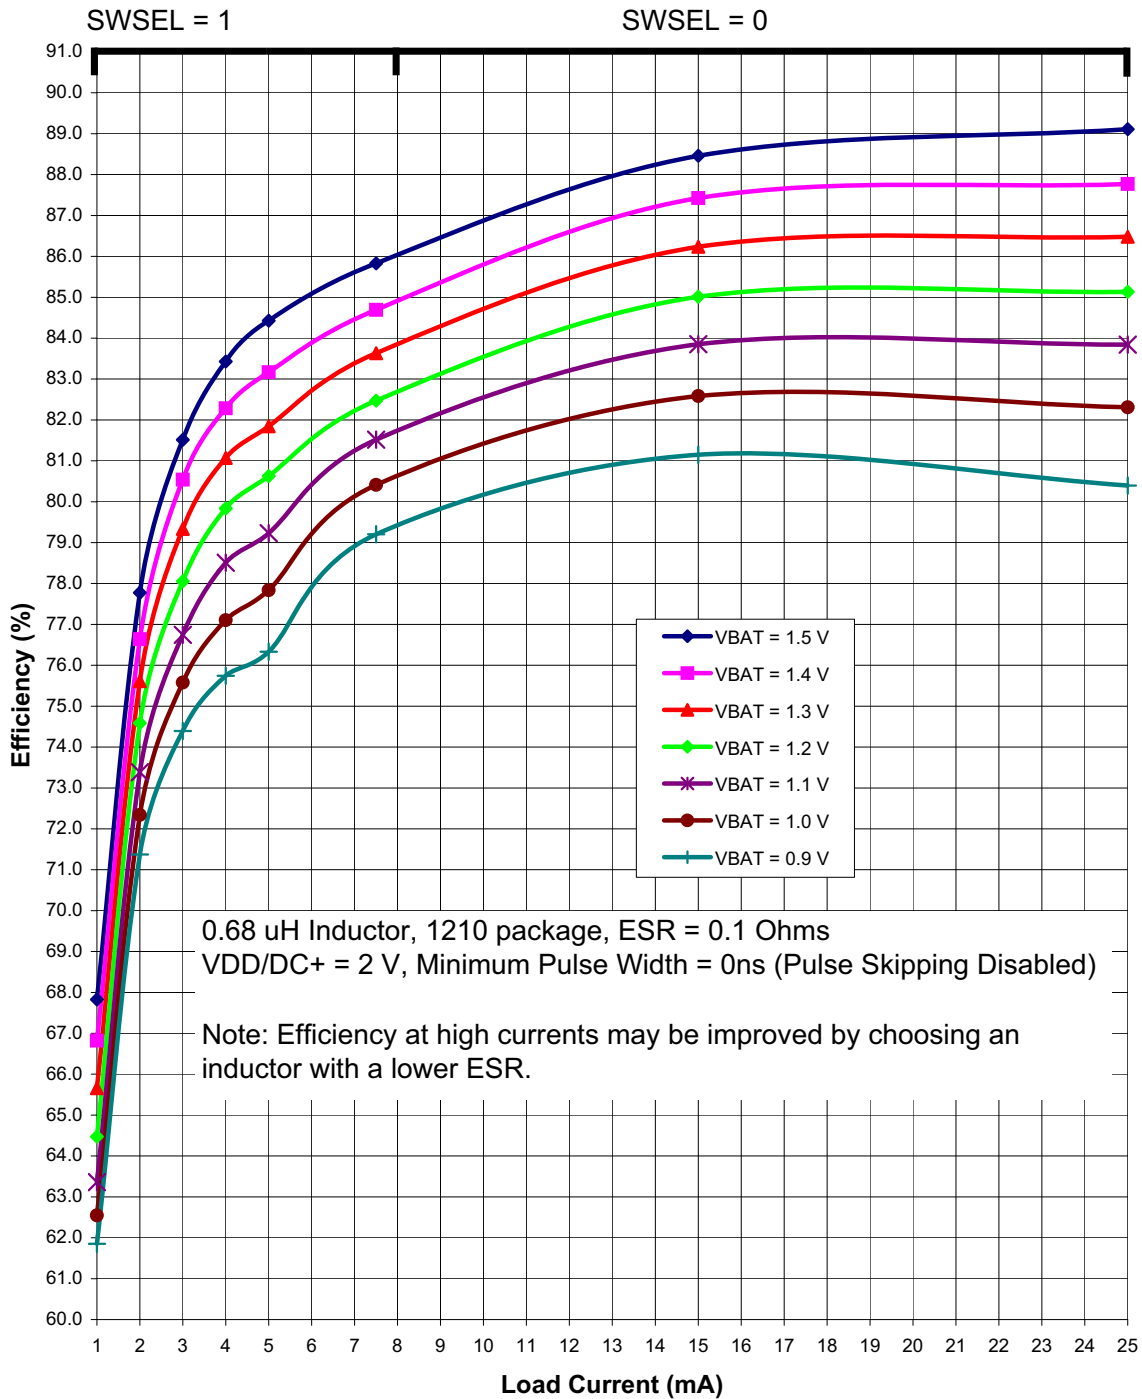
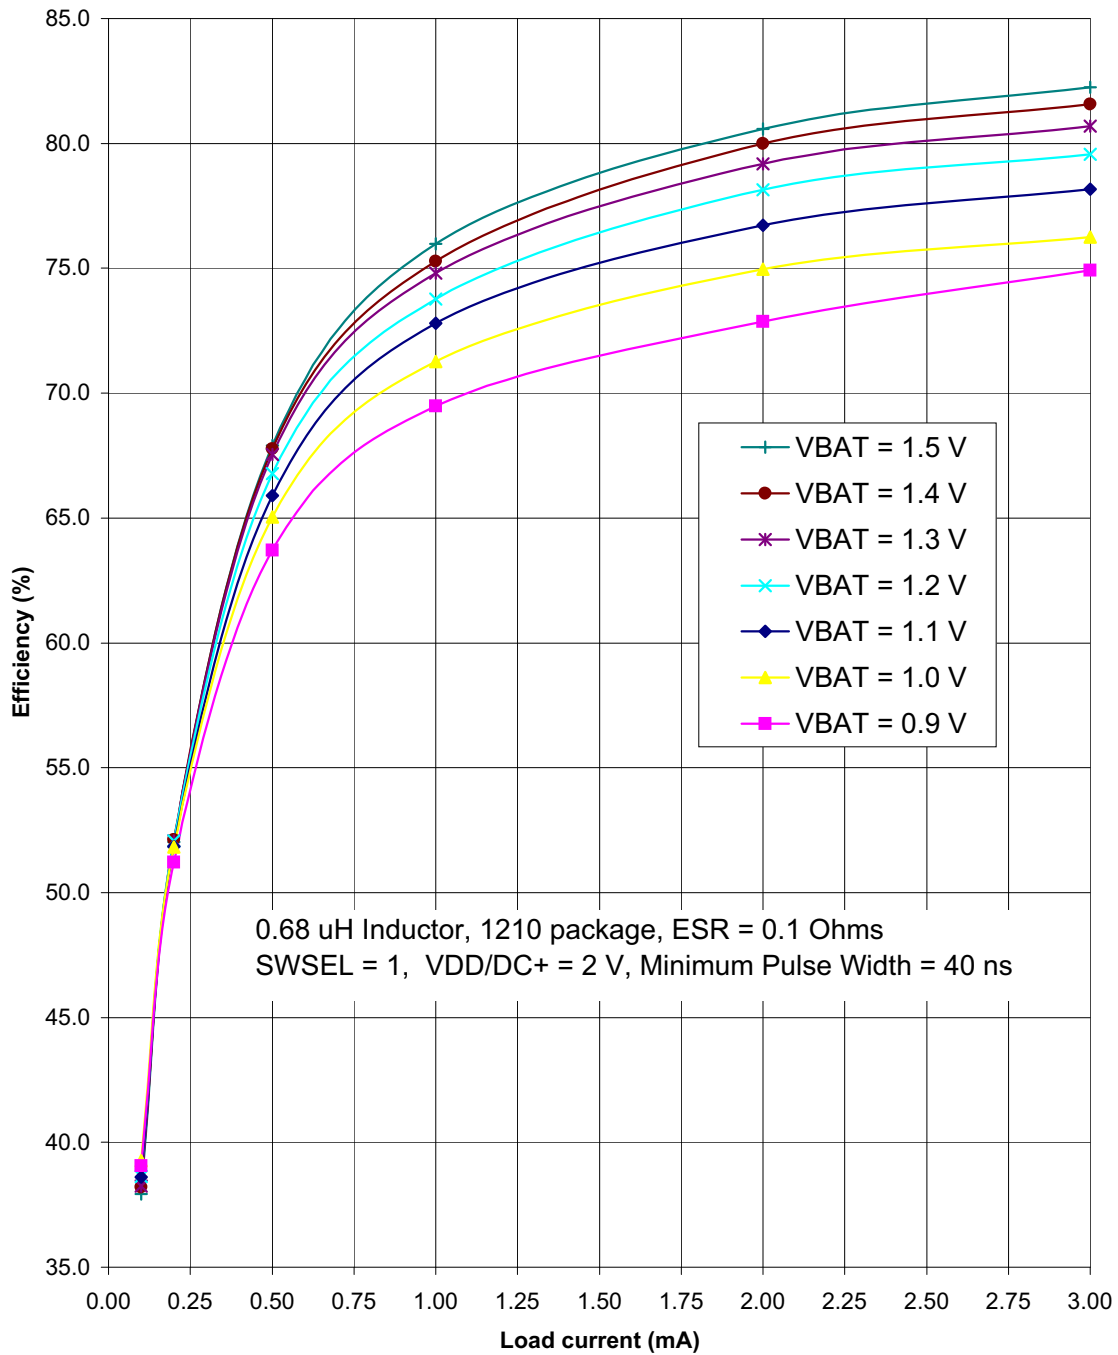

Figure 4.3. Typical DC-DC Converter Efficiency (High Current, VDD/DC+ = 2 V)
Figure 4.5. Typical DC-DC Converter Efficiency (Low Current, VDD/DC+ = 2 V)
<ol style="list-style-type: none"> Based on device characterization data; Not production tested. SYSCLK must be at least 32 kHz to enable debugging. Digital Supply Current depends upon the particular code being executed. The values in this table are obtained with the CPU executing an "sjmp \$" loop, which is the compiled form of a while(1) loop in C. One iteration requires 3 CPU clock cycles, and the flash memory is read on each cycle. The supply current will vary slightly based on the physical location of the sjmp instruction and the number of flash address lines that toggle as a result. In the worst case, current can increase by up to 30% if the sjmp loop straddles a 128-byte flash address boundary (e.g., 0x007F to 0x0080). Real-world code with larger loops and longer linear sequences will have few transitions across the 128-byte address boundaries. Includes oscillator and regulator supply current. IDD can be estimated for frequencies ≤ 10 MHz by simply multiplying the frequency of interest by the frequency sensitivity number for that range, then adding an offset of 90 μA. When using these numbers to estimate I_{DD} for >10 MHz, the estimate should be the current at 25 MHz minus the difference in current indicated by the frequency sensitivity number. For example: $V_{DD} = 3.0$ V; $F = 20$ MHz, $I_{DD} = 4.1$ mA – $(25 \text{ MHz} - 20 \text{ MHz}) \times 0.120 \text{ mA/MHz} = 3.5$ mA. The Supply Voltage is the voltage at the VDD_MCU pin, typically 1.8 to 3.6 V (default = 1.9 V). Idle IDD can be estimated by taking the current at 25 MHz minus the difference in current indicated by the frequency sensitivity number. For example: $V_{DD} = 3.0$ V; $F = 5$ MHz, Idle $I_{DD} = 2.5$ mA – $(25 \text{ MHz} - 5 \text{ MHz}) \times 0.095 \text{ mA/MHz} = 0.6$ mA. The supply current specifications in Table 4.2 are for two cell mode. The VBAT current in one-cell mode can be estimated using the following equation: $\text{VBAT Current (one-cell mode)} = \frac{\text{Supply Voltage} \times \text{Supply Current (two-cell mode)}}{\text{DC-DC Converter Efficiency} \times \text{VBAT Voltage}}$ <p>The VBAT Voltage is the voltage at the VBAT pin, typically 0.9 to 1.8 V. The Supply Current (two-cell mode) is the data sheet specification for supply current. The Supply Voltage is the voltage at the VDD/DC+ pin, typically 1.8 to 3.3 V (default = 1.9 V). The DC-DC Converter Efficiency can be estimated using Figure 4.3–Figure 4.5.</p> The radio peripheral is placed in Shutdown mode.